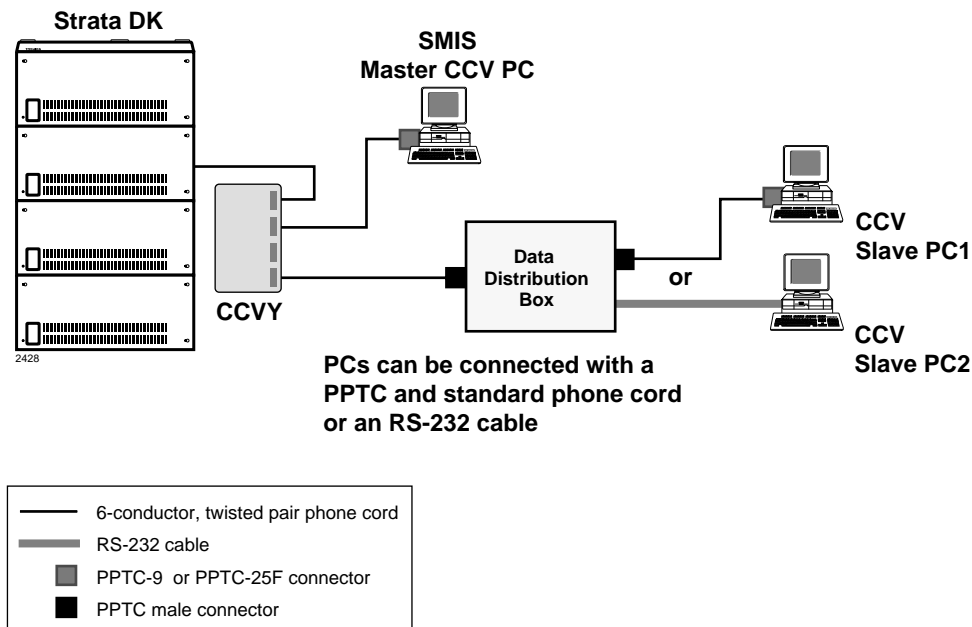

Figure 11-21 Connecting Up to Three CCV PCs (Less than 50' From the DK)
1. Install the CCVY connector into the Strata DK MIS port (RSIU, RSIS, RMDS, or PIOUS PCBs). See Figure 11-21.
4. Make sure that the Data Distribution Box is strapped for DTE operation for every output port (8). By using multiple data broadcast units, as many PCs as desired can be used, provided each one has the Call Center Viewer application and key installed.